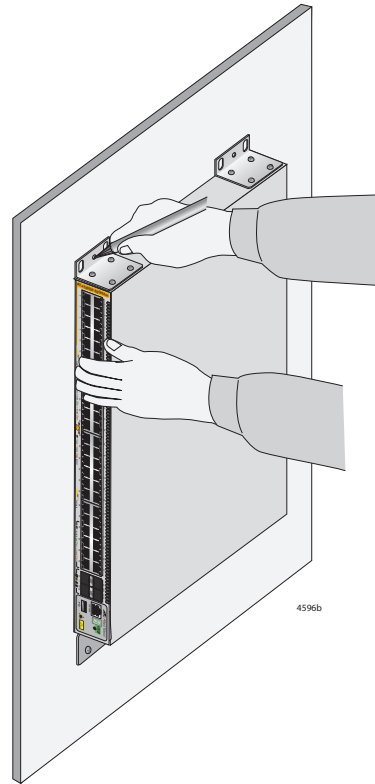

Figure 9. Marking the Locations of the Bracket Holes on a Concrete Wall
3. After attaching the brackets, have another person hold the switch on the concrete wall at the selected location for the device while you use a pencil or pen to mark the wall with the locations of the four screw holes in the four brackets (one screw per bracket). Refer to Figure 9 on page 88.